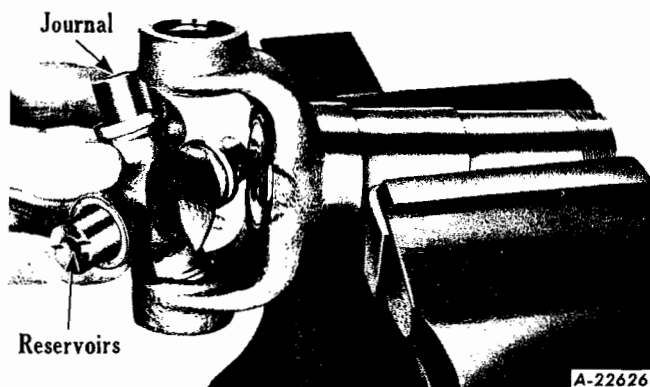

Fig. 19
- g. Remove journal cross from yoke. Tip cross as shown in Fig. 19, and lift out of yoke.